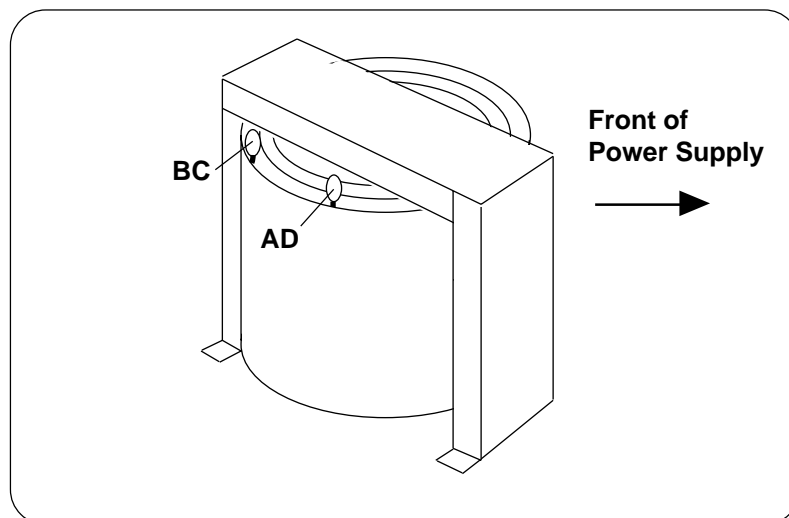

Figure 1 Single-phase transformer
To remove the #041106 EWS chopper and install the #029676 CH50 chopper assembly, refer to Figures 1, 2 and 3 and proceed as follows:
3. Remove the cables marked **AD** and **BC** on the large transformer (T2) located on the base of the power supply. See Figure 1 below for location of terminal connections for **AD** and **BC** on the single-phase transformer.
4. Attach the long wires from the chopper labeled **1** and **2** to the large transformer (T2) as follows (Refer to Figure 1):